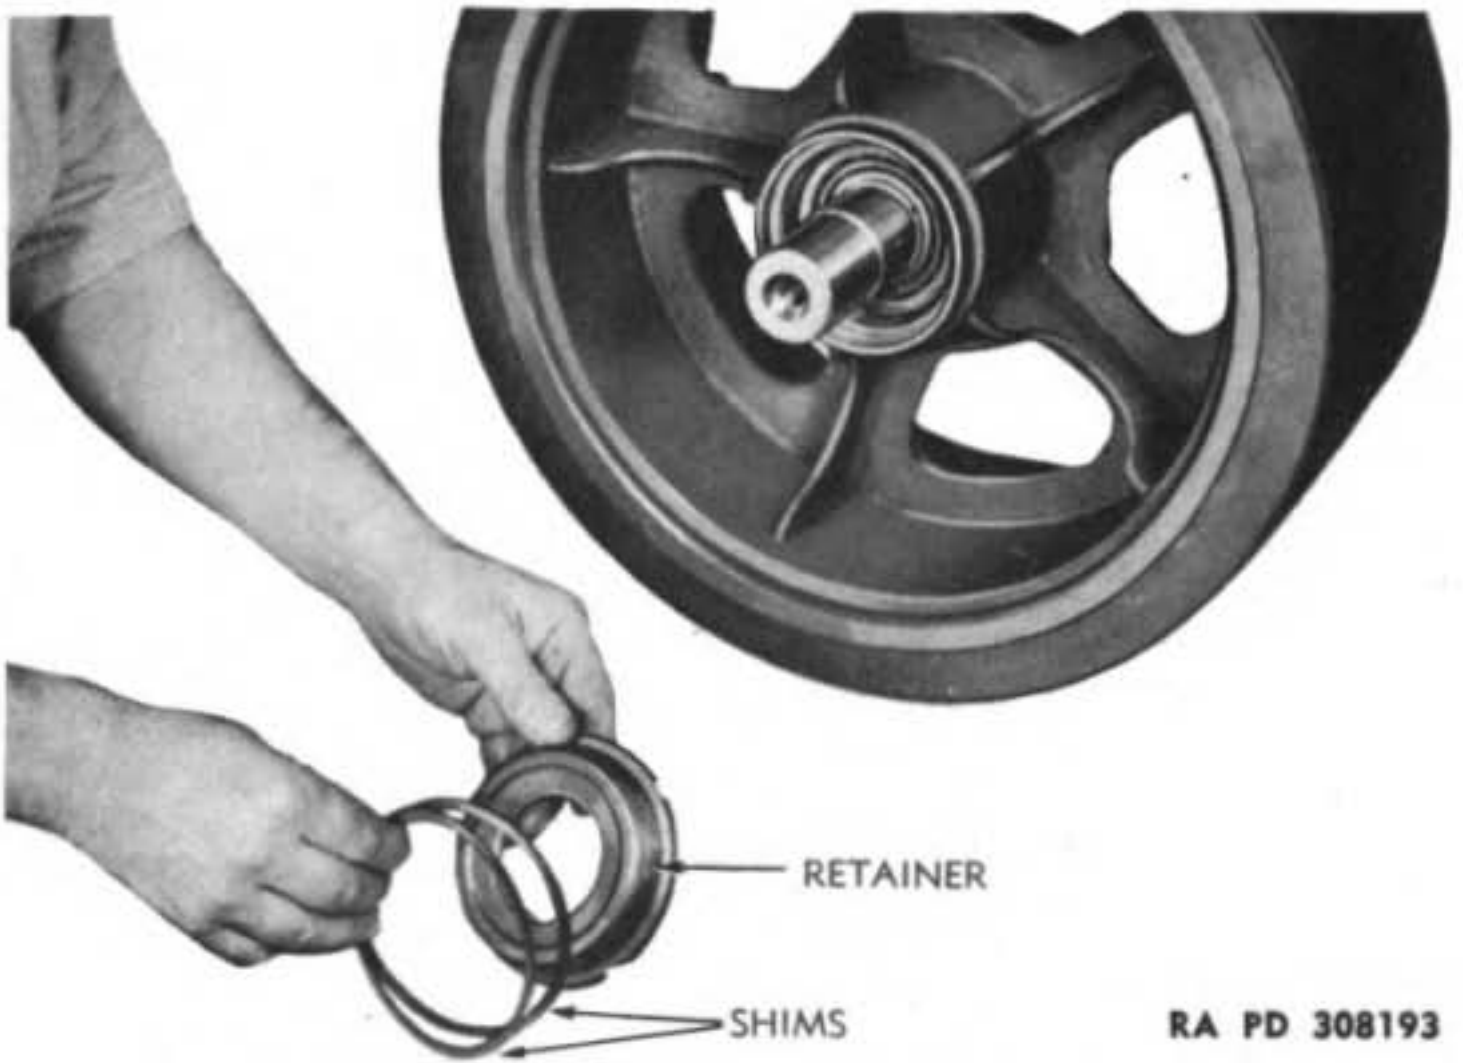
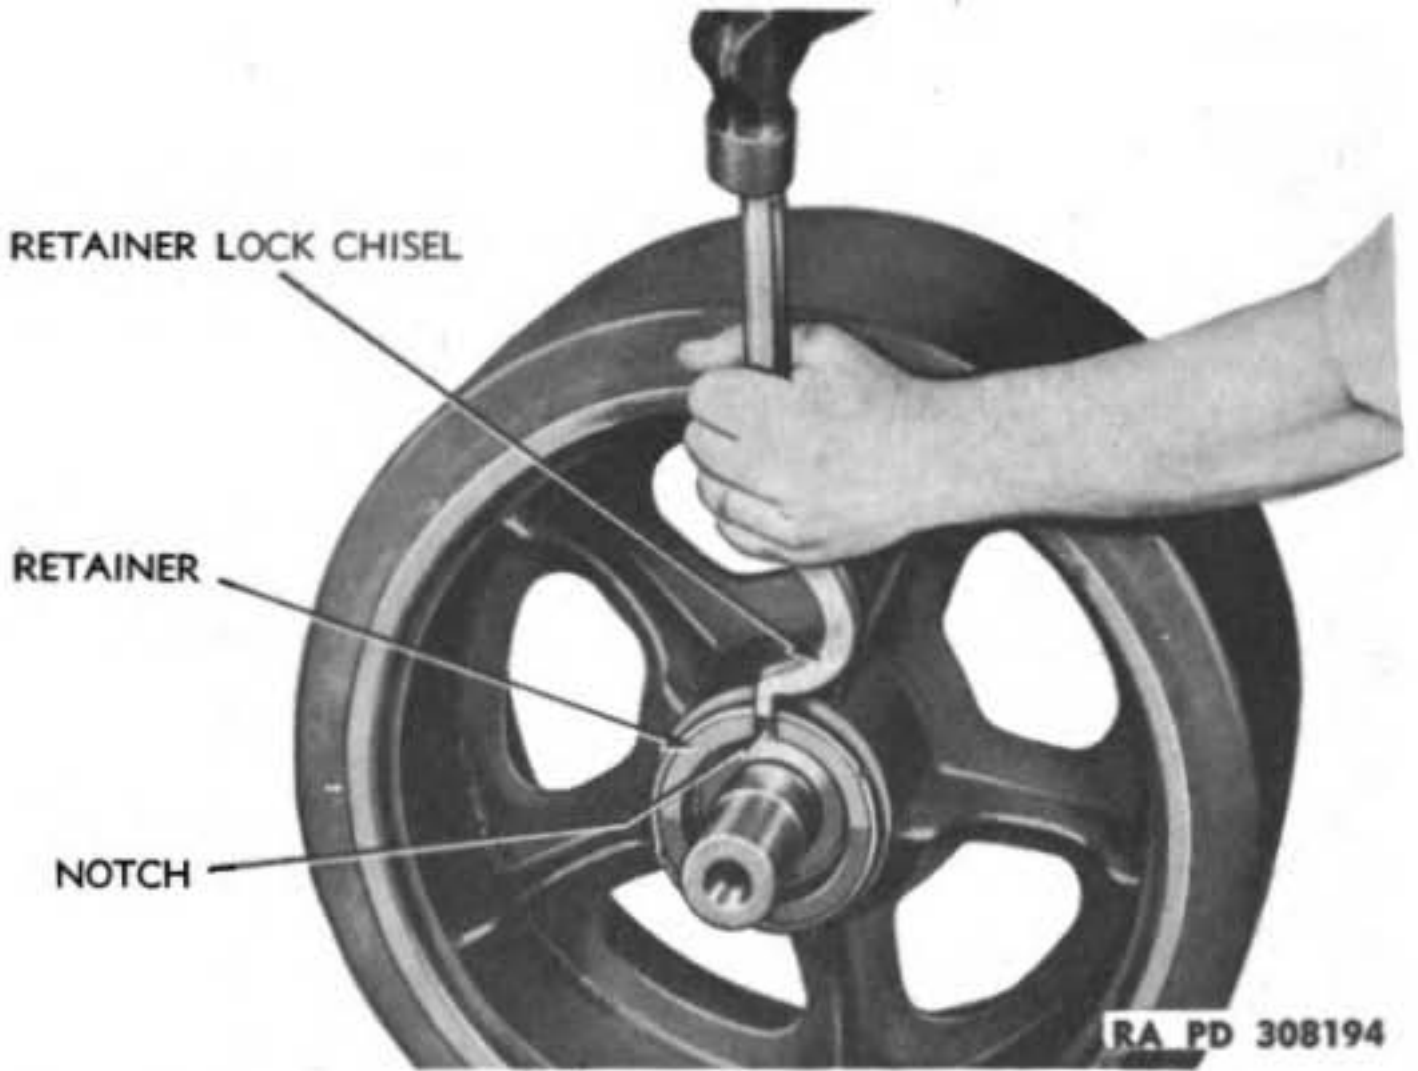

Figure 91 – Installing Shims on Bearing Retainer
Figure 92 – Locking Bearing Retainer, Using Tool (41-T-3380-30)
b. Install Bearing Retainers and Shims. Shims 0.0312, 0.010, and 0.007 inch thick are used in installation of retainers to allow for adjustment of bearings. Use the same shims that were removed with retainers if possible, if not, place shims equal in total thickness on both retainers (fig. 91) and screw retainers into hub. Tighten retainers with retainer wrench shown in figure 85 (par. 37 b). **NOTE:** *Be sure shims do not drop into threads of retainers during installation.* Rotate shaft by hand to test bearing adjustment. Bearings are correctly adjusted if there is no end play in shaft and a slight drag on bearings is felt when shaft is turned. Correct adjustment is made by adding or removing shims back of retainers. Both retainers must be tight when testing adjustment and retainers finally tightened by using hammer on handle of wrench after which bearing adjustment must again be checked. Secure retainers from loosening by bending edge of hub into slots in retainers with tool (41-T-3380-30) (fig. 92).